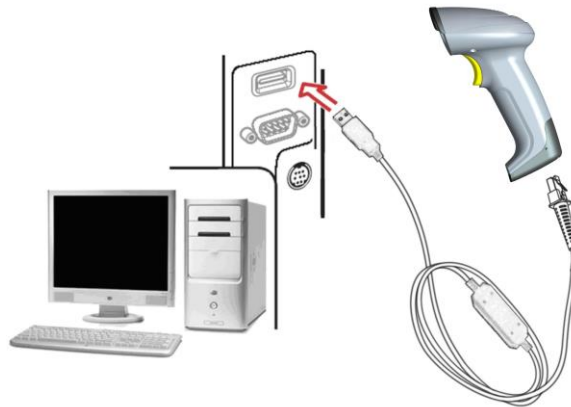

Figure 2-4 Installation - USB
1. Refer to Figure 2-4, connect the USB interface cable to the bottom of the scanner.